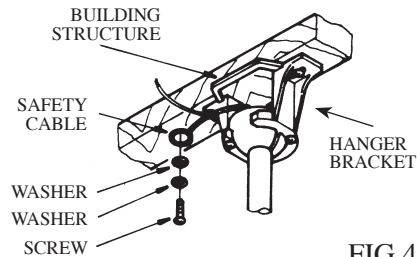

FIG.4
3. Install the safety cable into the building structure (see FIG 4).